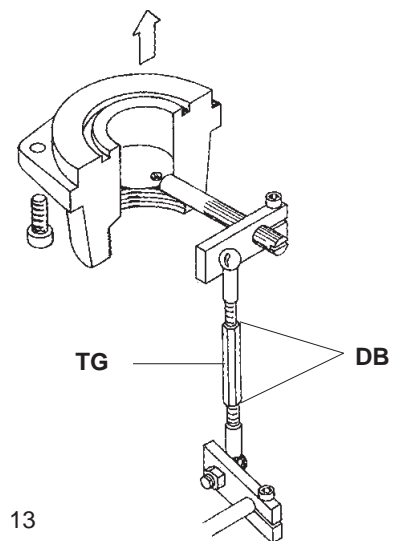
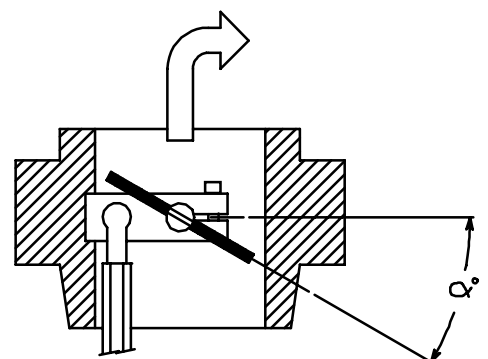

Fig. 13
Fig. 14
- 3 Bring the burner to low flame, in order to alter the gas flow rate slacken the nuts DB (fig. 13) and adjust the opening of the gas butterfly valve by rotating the rod TG (CW rotation increases gas flow, while CCW rotation decreases it). The slot on the butterfly valve shaft shows the degree of opening of the valve in relation to the horizontal axis (see fig.14).